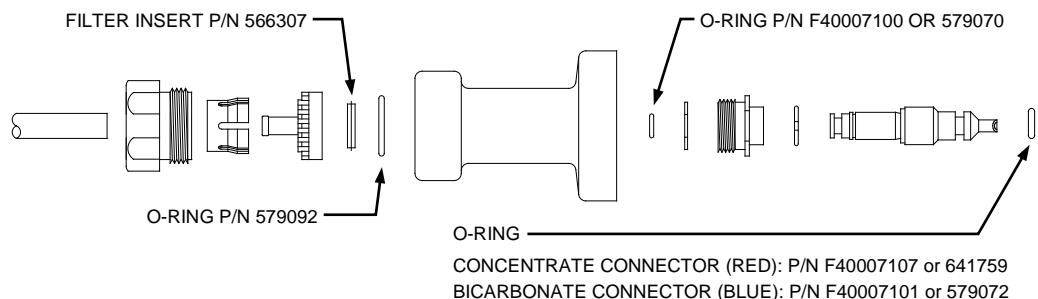

Figure 5 - Concentrate and Bicarbonate Connector Assemblies.
2. Filters and O-rings in the Concentrate and Bicarbonate Connectors (See Figure 5). Replace all three O-rings in each connector.